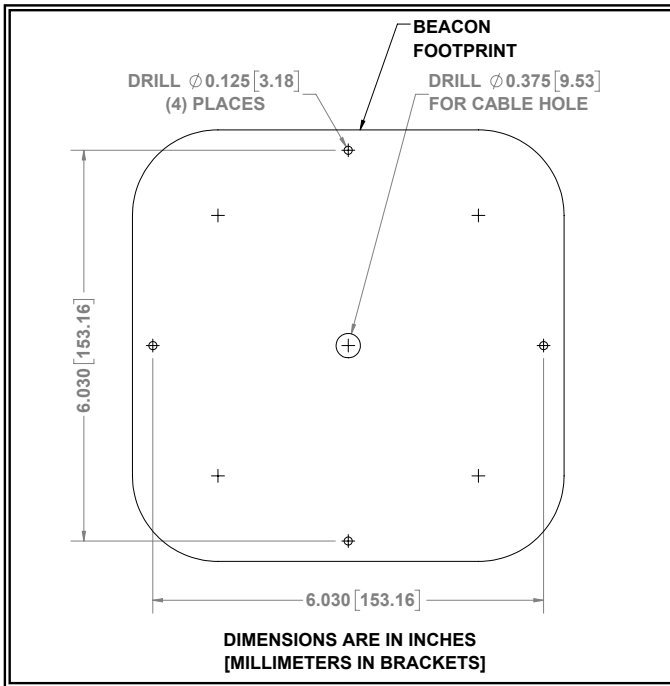

Figure 1
Mount the beacon, by drilling (4) 1/8" Diameter pilot holes for the provided sheet metal screws and (1) 3/8" diameter hole for the cable in the desired location (See drawing view Figure 1 on page 2).